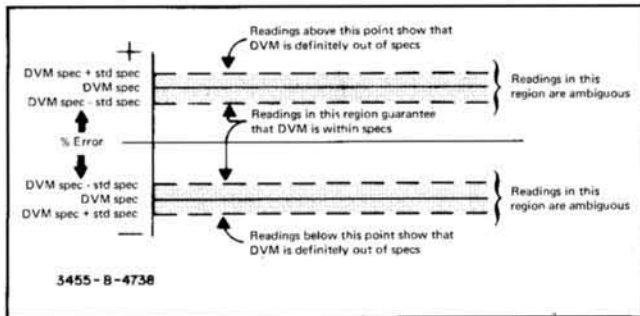

Figure 4-1. Ambiguous Regions.
4-23. Figure 4-1 shows how the error tolerances of the standard combine with those of the DVM to produce the positive and negative ambiguous regions used in the preceding examples. From Figure 4-1, the following observations can be made:
c. If the DVM reading is in or out of tolerance by a percentage that is less than the maximum allowable error of the standard, it is in one of the ambiguous regions (shaded areas) shown in Figure 4-1. The DVM may or may not be within its specification and the only way to tell for sure is to use a more accurate standard.
4-24. As the accuracy specifications of the standard approach the specifications of the DVM to be tested, the ambiguous regions shown in Figure 4-1 become wider and the uncertainty contributions of the standard become increasingly significant. If the standard is less than three or four times more accurate than the DVM, the performance test is not practical because the ambiguous regions cover most of the DVM's error range. From a practical standpoint, the dc standard should be at least five times more accurate than the 3455A specifications to be tested. If such a standard is not available, an alternative approach is to use a *calibrated* standard that is extremely stable and (preferably) two to four times more accurate than the 3455A. When this is done, the correction factors given on the dc standard's calibration chart must be algebraically added to the 3455A test readings. Test validity depends on the calibration uncertainties and the short-term stability of the standard.